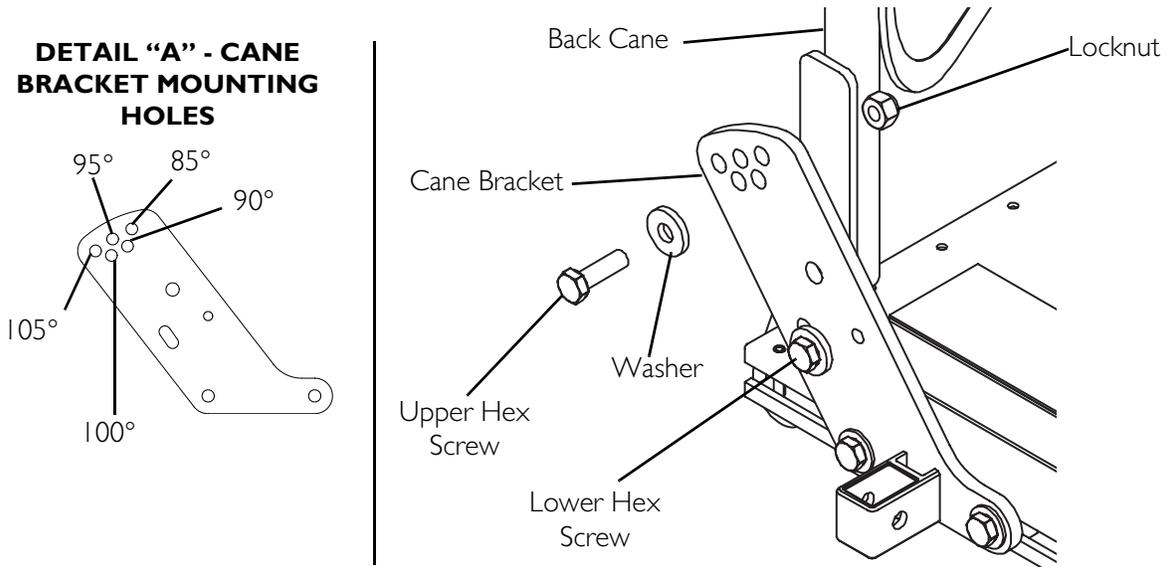

FIGURE 7.3 Adjusting the Back Angle - Adjustable Seat Back Angle (ASBA) Model
NOTE: For this procedure, refer to FIGURE 7.3.
3. Align the upper mounting holes in the back canes with the desired mounting holes in the cane brackets (Detail "A" of FIGURE 7.3).